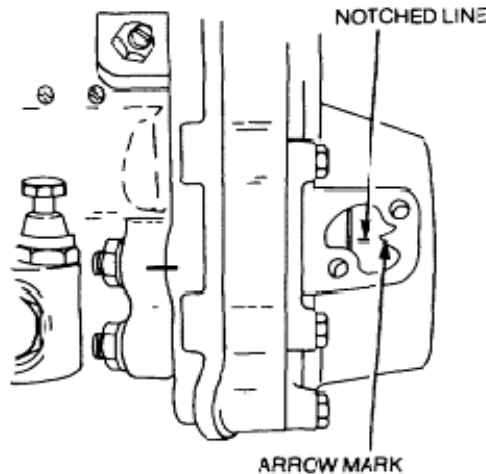

Figure 31 Injection Pump Timing Mark
- o. With the TDC mark aligned, remove the inspection plate on the timing cover and ensure that the notched line is aligned with the arrow mark (Figure 31).